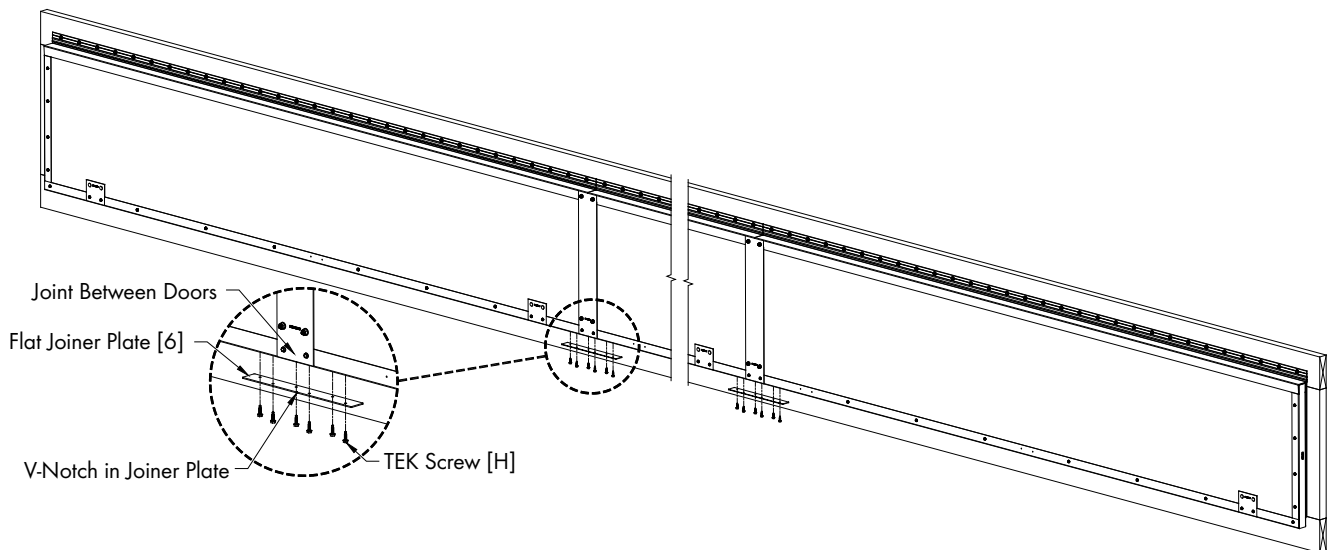

Figure 26
On the bottom of the doors, at the joint between each pair of doors attach a Flat Joiner Plate [6] with (6) TEK Screws [H]. Make sure the V-Notch in the Joiner Plate is aligned with the joint in the door and (3) TEK Screws [H] go into each door. See Figure 26.